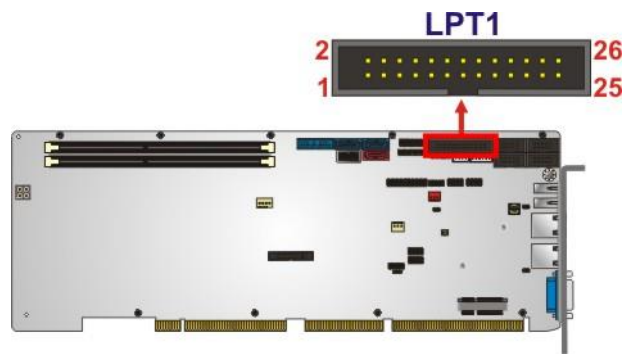

Figure 3-19: Parallel Port Connector Location
- CN Location: See Figure 3-19